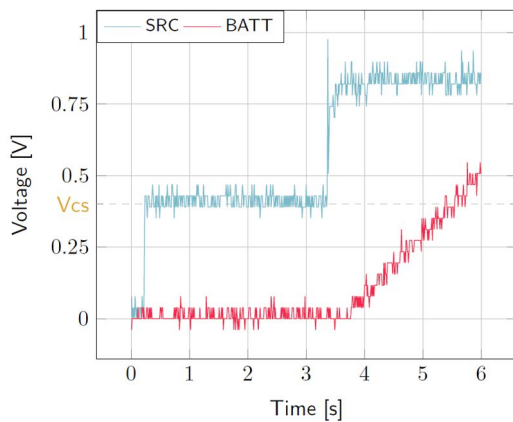

Figure 6: AEM10941 behaviour during cold start
- SRC**: Equal to the cold-start voltage during the coldstart phase. Regulated at 70% of **Voc** when cold start is over. (See Figure 6). Be careful that the cold-start phase time will shorten with the input power. Limit it to ease the observation.
- BATT**: Starts to charge when the cold-start phase is over (see Figure 6).